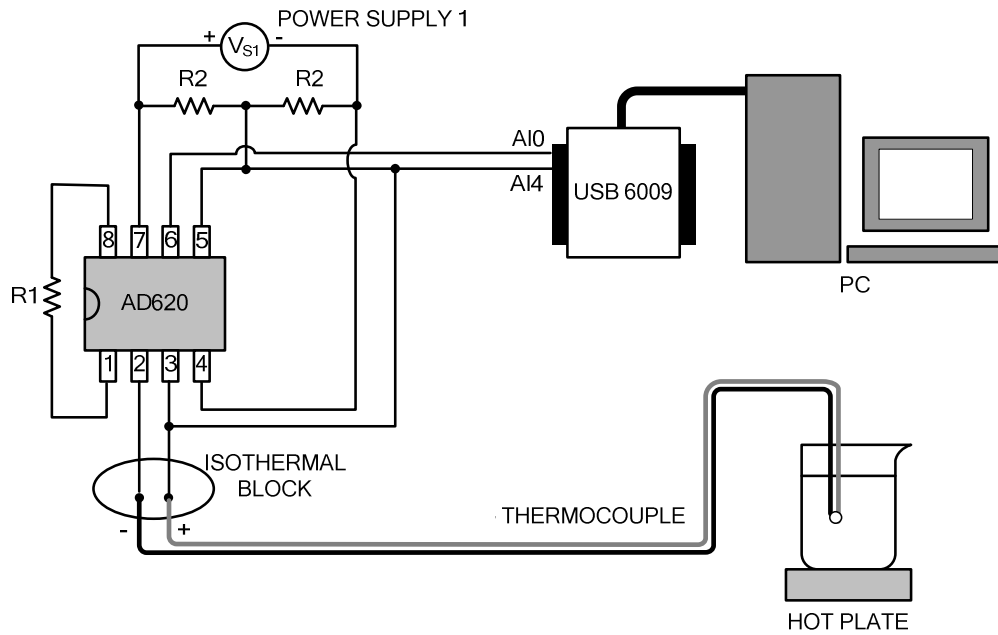

Figure 4.
1. Prepare the experimental setup shown in Figure 4 and the **Thermocouple VI** in Figure 5.